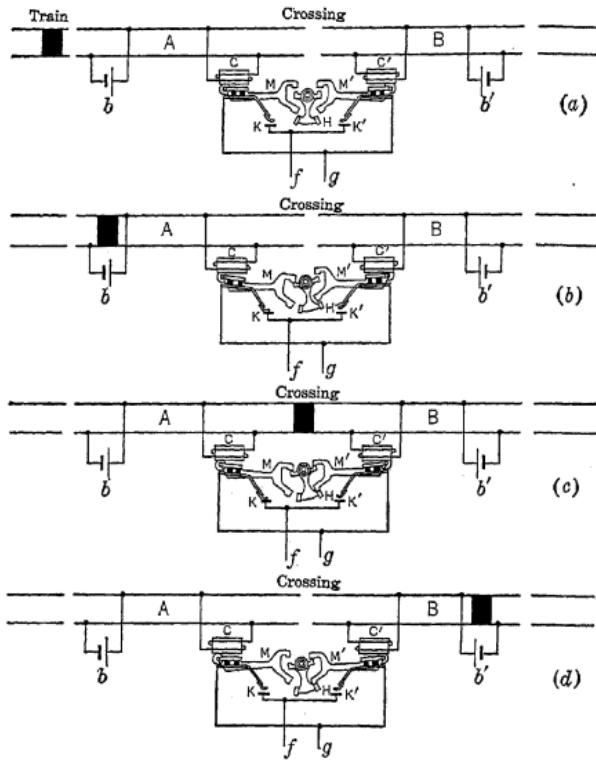

FIG. 153: Successive positions of interlocking relay during the operation of a railroad crossing signal.
81. Railway Crossing Signals. Fig. 152 shows a modern grade-crossing signal which displays an illuminated "STOP" sign and a pair of alternately flashing lamps when a train is approaching from either direction. The series of diagrams in Fig. 153 shows the different stages in the operation of these signals. The insulated track sections *A* and *B* extend on either side of the crossing to the points where entering trains are to start the signals. When both sections *A* and *B* are clear, the batteries *b* and *b'* send currents through the rails and through the coils *c* and *c'* thus holding up the arms *M* and *M'* and keeping both switches *K* and *K'* open as shown in (a). When a train enters section *A* from the West, Fig. 153 (b), the current from battery *b* which would normally flow through coil *c* goes through the wheels and axles of the train allowing the electromagnet to become so weak that arm *M* drops down, closing the contact points at *K* and completing the circuit between *f*
and *B*, Fig. 153 (c), both electromagnets *c* and *c'* are weakened releasing arm *M'* as well as *M*. But note that due to the position of the pawl *H*, *M'* cannot fall far enough to
close switch K' , so that when the last car of the train passes the crossing, electromagnet c is again energized drawing up arm M and opening points K . This opens circuit $f-g$ and the signals cease to operate. Fig. 153 (d) shows how the pawl H continues to hold M' from closing K' until the train passes out of section B when electromagnet c' is again energized bringing the relay back to the condition shown in Fig. 153 (a). If the little mechanism H were not present it is easy to see that the signals would keep on operating for some time after the train passed the crossing.
Prob. 22-7. Draw 4 sketches similar to those in Fig. 153 showing the sequence of operations in the interlocking relay when a train approaches the crossing from the East.